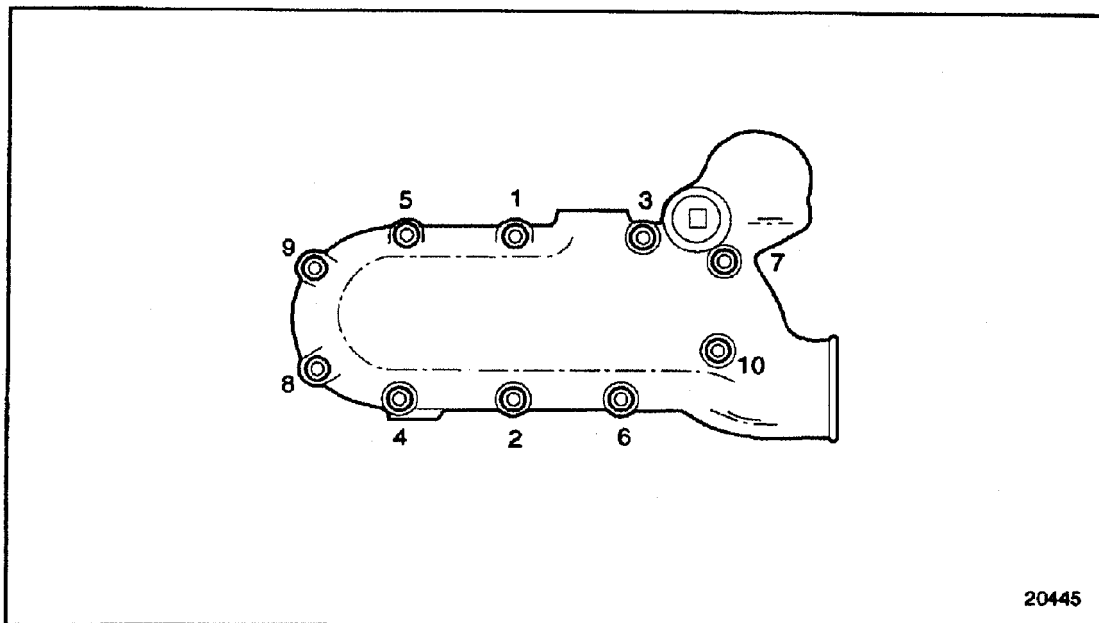

Figure 3-29 Oil Cooler Housing Bolt Torque Sequence
7. Align the oil cooler housing assembly to the oil filter adaptor. Install the ten oil cooler housing bolts and torque to 30-38 N·m (22-28 lb·ft) using the correct sequence. See Figure 3-29.